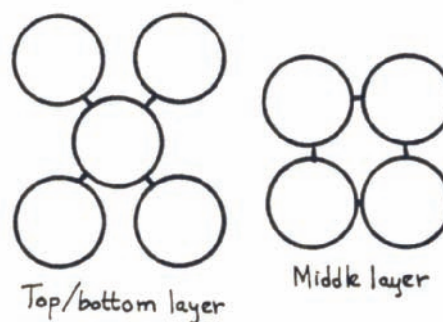

Figure 4.7. Face-Centered Cubic Crystal.
2. Copper (Cu), silver (Ag), and gold (Au) are also atomic crystalline solids. Their atoms pack in a face-centered cubic arrangement. Use 14 2-in.-diameter balls and 12 toothpicks to form three layers of a face-centered cubic crystal, as illustrated in Figure 4.7 (the top layer is the same as the bottom layer). Put the layers together like a sandwich. Draw a picture of this atomic crystalline solid.